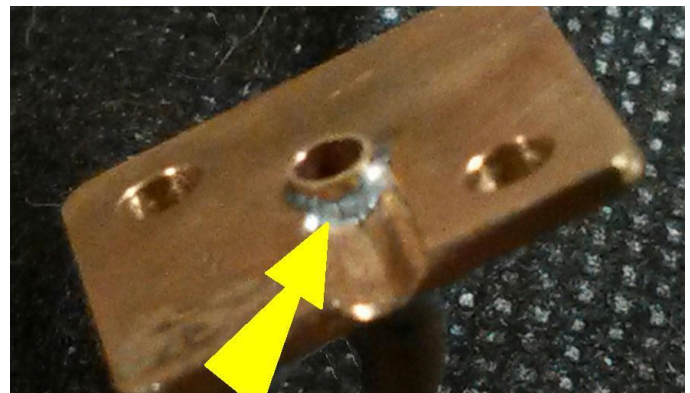
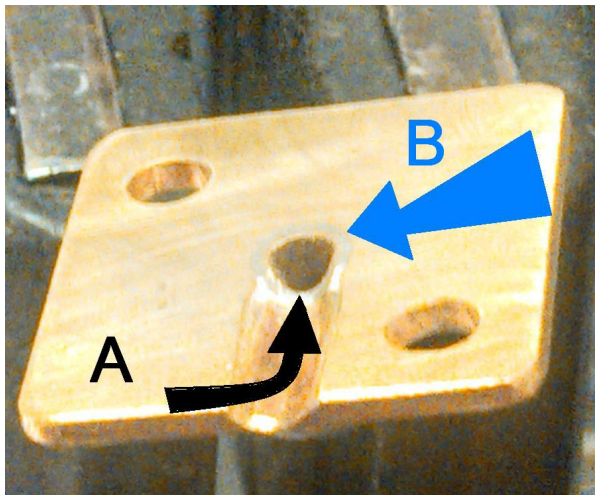

Figure 22
Figure 24
7. **Base Touchup** Refer to **Figures 22, 23** Create an even surface for the mounting side of the base by pressing it downward onto a sheet of #220 grit abrasive paper resting on a hard flat surface. Move the base in a circular motion until the small protruding neck material is flush with the base. Verify that the neck opening in the base is free of solder, and if not it must be cleared at this time.
8. **Final Base Work** Refer to **Figure 24** A thin ring of solder between the neck and the base should be visible after sanding as shown at arrow **B**. There is extra neck material blocking the LED wiring groove shown by the arrow in **Figure 22**. It **must** be removed, deburred and smoothed sufficiently as shown at arrow **A** to prevent piercing the LED wiring insulation when it lies in the groove once the fixture is installed.